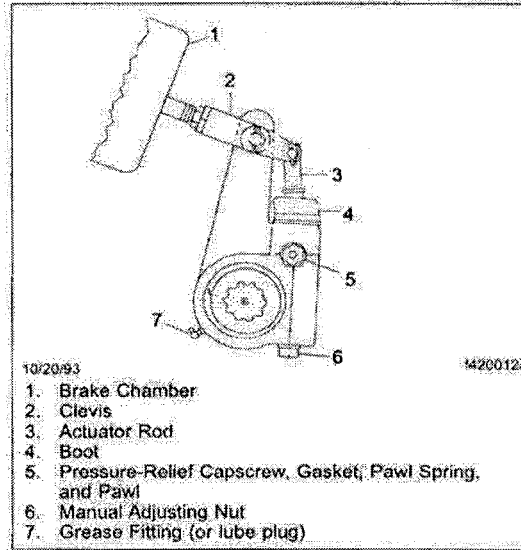
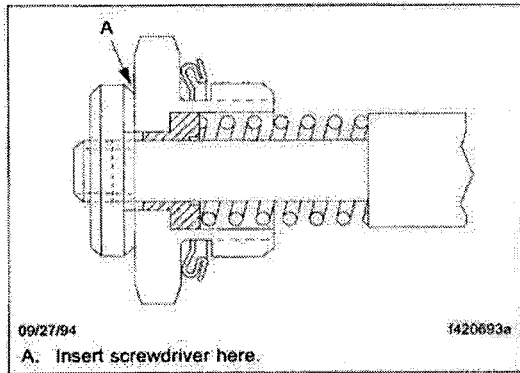

Fig. 11.18, Meritor Automatic Slack Adjuster
Fig. 11.19, Pull-Pawl Assembly (sectional view)
If the free-stroke is incorrect, remove the pressure-relief capscrew, spring, and pawl assembly (Fig. 11.18) from the slack adjuster housing. If equipped with a pull-pawl assembly (Fig. 11.19), carefully insert a screwdriver and raise the relief cap about 1/8 inch (3.2 mm).
- If the brake chamber stroke is incorrect, remove the pressure-relief cap-screw, spring, and pawl assembly (Fig. 11.18) from the slack adjuster housing. If equipped with a pull-pawl assembly (Fig. 11.19), carefully insert a screwdriver and raise the relief cap about 1/8-inch (3.2 mm).